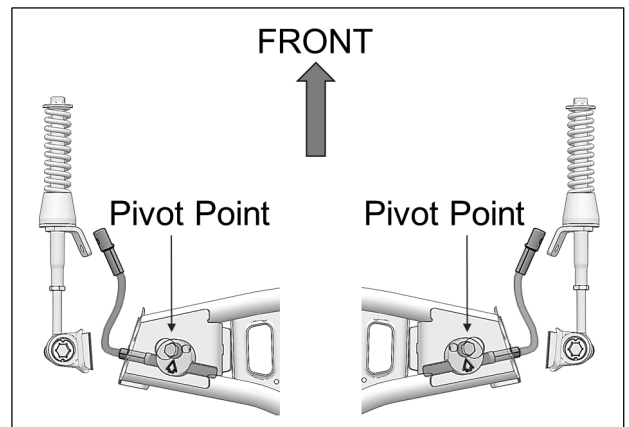

Fig. 24
15. Make sure aluminum disk pivot point is installed in front of steering limiter cable. See Fig. 24